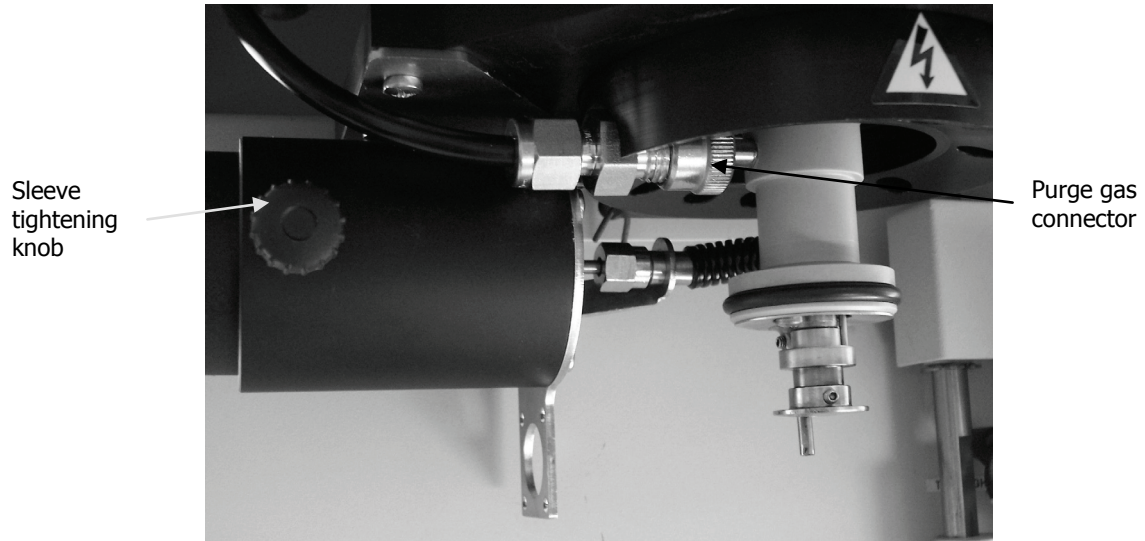

Figure 60 Purge gas flow connected
Finger-tighten the black plastic knob on the transfer-line sleeve to clamp the transfer line in place (shown in Figure 60).
16. Fit the Pyris 1 TGA purge gas flow to the new connector (Figure 60).